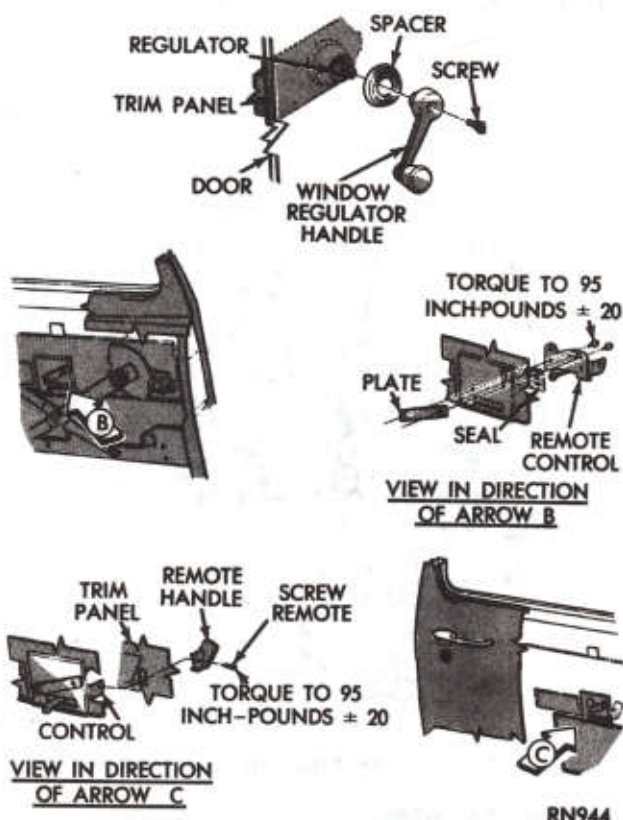

Fig. 6—Remote Control Assembly
Remote Control (Fig. 6)
- (1) Remove regulator handle shown in (Fig. 6).
- (2) Remove remote control handle.
- (3) Remove trim panel, and watershield.
- (4) Working through access hole remove linkage and mounting plate to remote control.
- (5) Remove remote control.